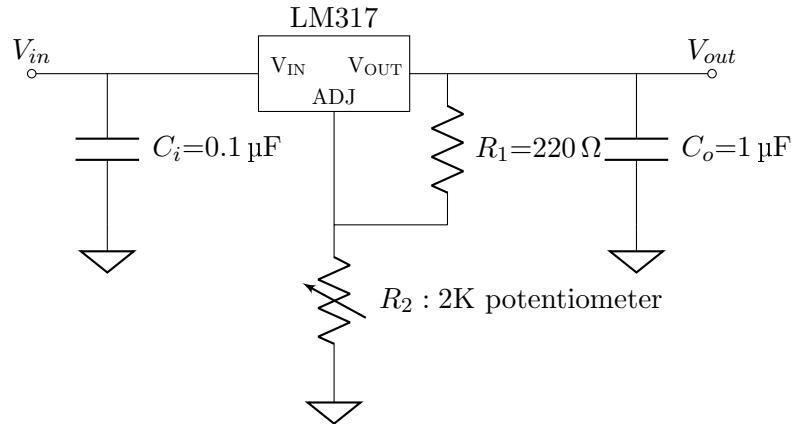

Figure 7: Schematic of the voltage regulator circuit using LM317.
1. Using Fig. 7 as a reference, build the regulator circuit on the breadboard. You should be able to find the LM317 pinout diagram from its datasheet, which you find from online. *As a general suggestion, it is important to keep your circuit well laid out and keep the connecting wires as short as*